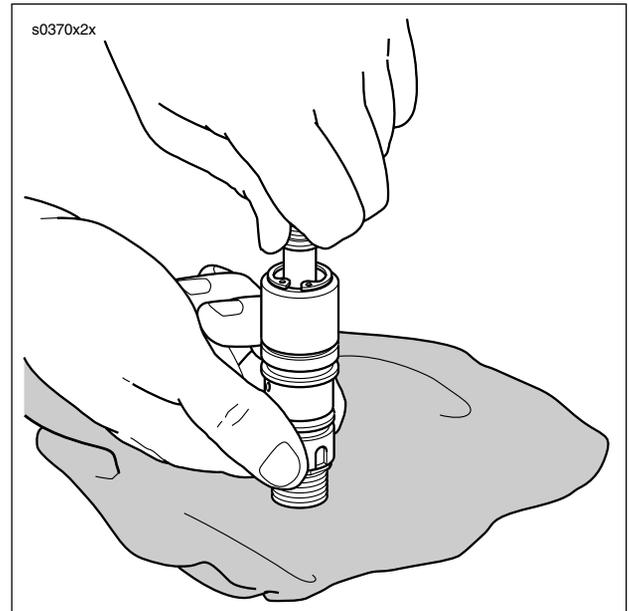

Figure 2-52. Compressing Piston Spring
12. See Figure 2-52. Push down on push rod to compress piston spring and remove retaining ring inside cartridge.